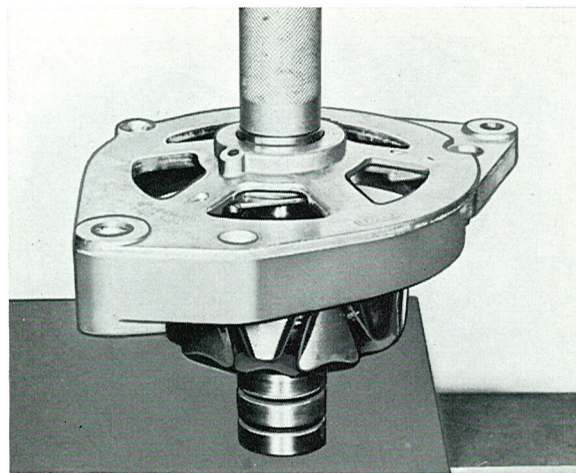

Fig. 3-18. Assembling the rotor and drive end shield
3. Press the drive end bearing shield and spacing ring on the rotor, see Fig. 3-18.